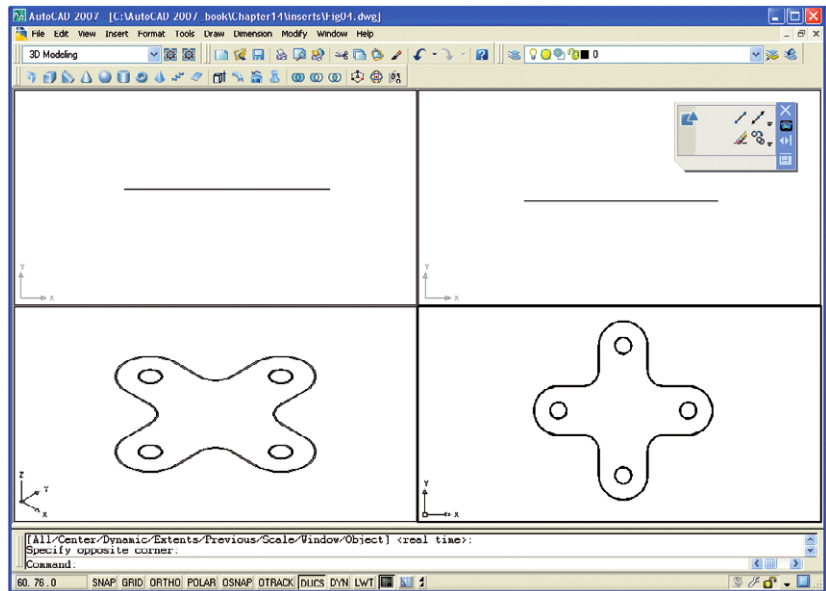

Fig. 14.5 The plan view drawn
4. Using the **Polyline** tool, construct the outline of the plan view of the plate of the support, including the holes (Fig. 14.5). Note the views in the other viewports.